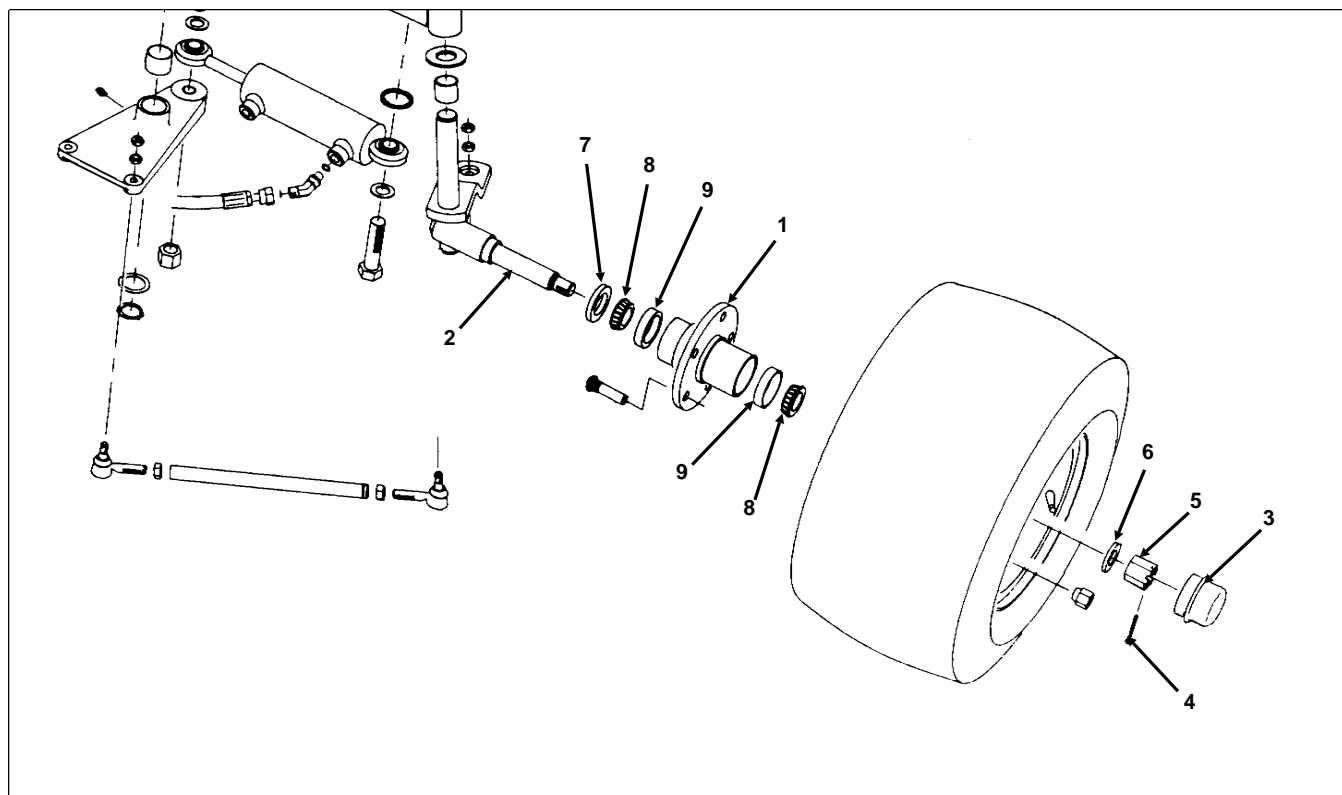

Figure 18
2. Remove the dust cap from the end of the wheel spindle (Fig. 18).
1. Remove dust cap from end of wheel spindle. Also remove cotter pin retaining slotted nut in place (Fig. 18).
4. Put a coating of grease on the inside of the dust cap. Install dust cap on the end of the wheel spindle (Fig. 18).